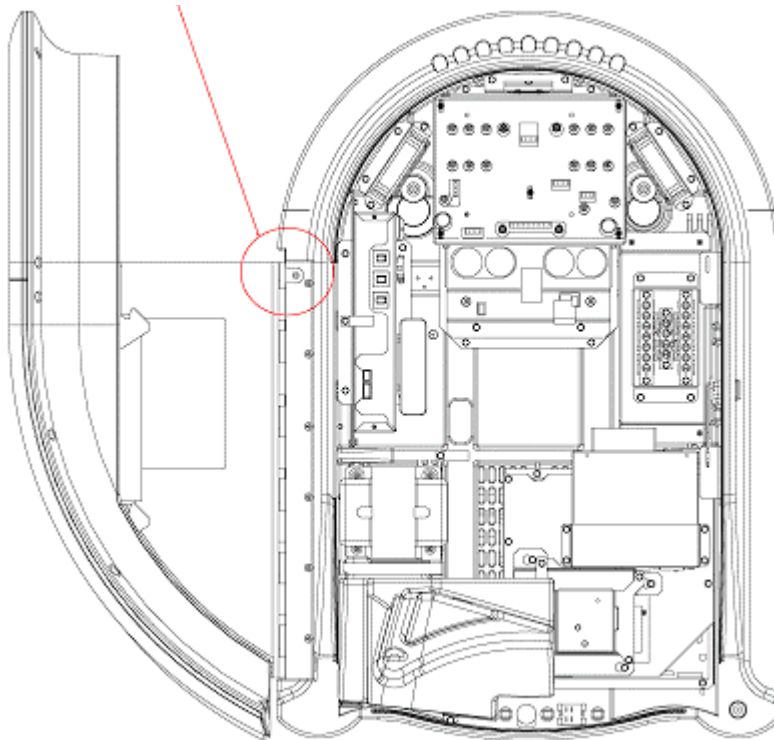

FIGURE 1-4 - LOCKING THE MOD BOX TO THE BRACKET
5. Lock the MoD BoX onto the bracket with the provided 10-32 machine screw (see Figure 1-4).